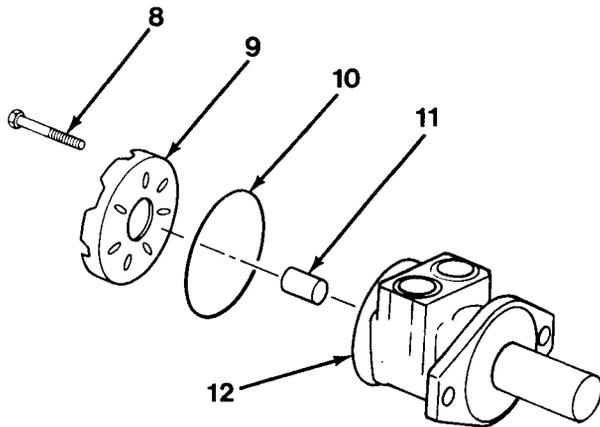
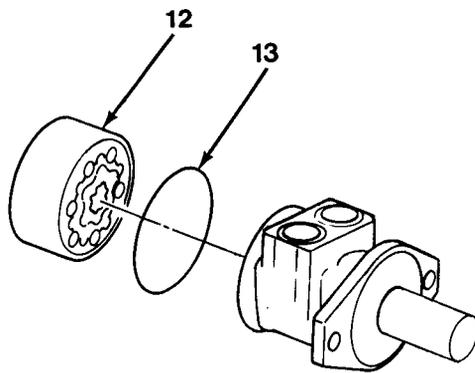

Figure 13-2
Figure 13-3
1. Clamp swing motor in a soft-jawed vice with end cover (9, Figure 13-2) up.
2. Remove seven bolts (8).
3. Remove end cover (9) and seal ring (10) from rotor assembly set (12).
4. Remove drive link spacer/washer (11).
5. Remove rotor assembly set (12) and seal ring (13, Figure 13-3).